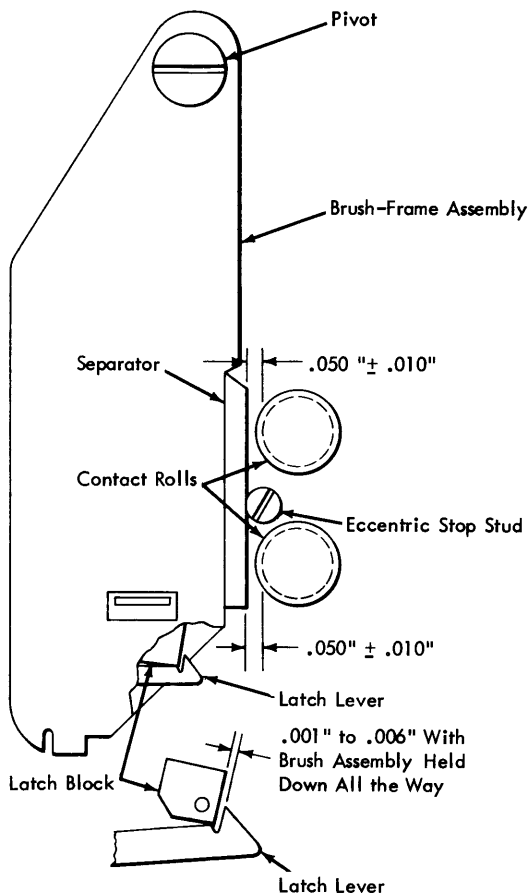

Figure 68. Carriage-Tape Brush Assembly Adjustments
6. Adjust the brush-separator eccentric stop stud for .050" ($\pm .010''$) clearance between the brush separator and the contact rolls at the scribed line (Figure 68).
7. Adjust the latch block to obtain .001" to .006" clearance between the latch pawl and latch block with the brush assembly fully depressed (Figure 68).